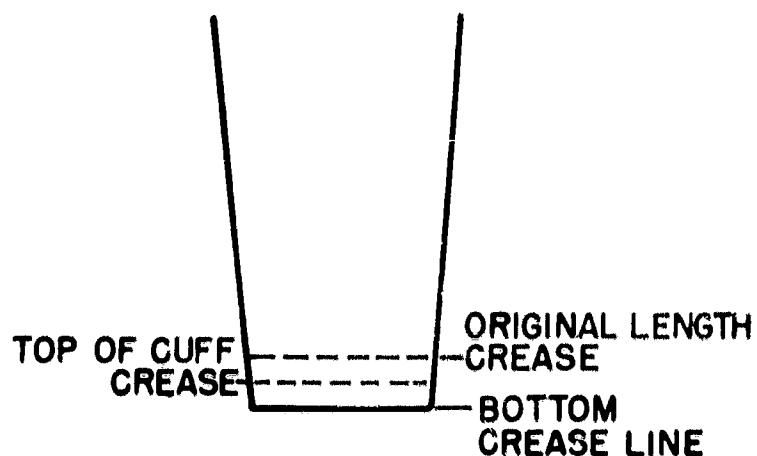

Figure 67.
2. Fold trouser leg to the inside on the bottom crease line (see Figure 67). Pin and hem. Stitches should not show on right side of trouser leg.